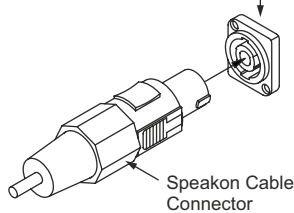

**Fig. 3** Output Connections
Amplified signal is available at Pin 1+ & 1- of speakon connector. The output speakon connectors should be wired as per fig. 3 (*Output Connection for (All/Dual/Individual Mode)*).
- Connect a speaker system on the output terminal of each channel. It is recommended to use the speakon connectors and wire these as per fig. 3 (*Output Connections for All/Dual/Individual Mode*).
- One number of full range loudspeaker system SPX-1210 can be connected to each of the output channels of amplifier 1. The output speakon connectors should be wired as per fig. 3 (*Output Connections for All/Dual/Individual Mode*).